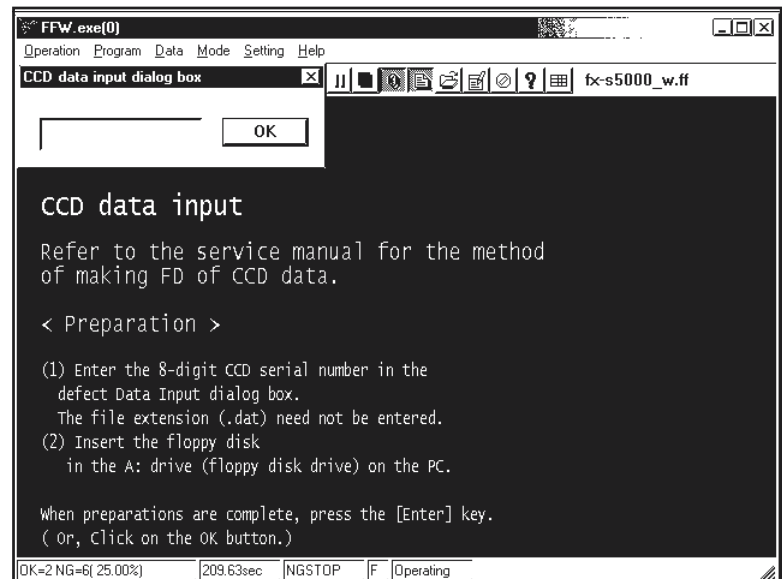

Fig.11
---> The **[CCD Data Input Start Screen (Fig.11)]** appears.
Make the following preparations in accordance with the instructions on the [CCD Data input Start Screen (Fig.11)].